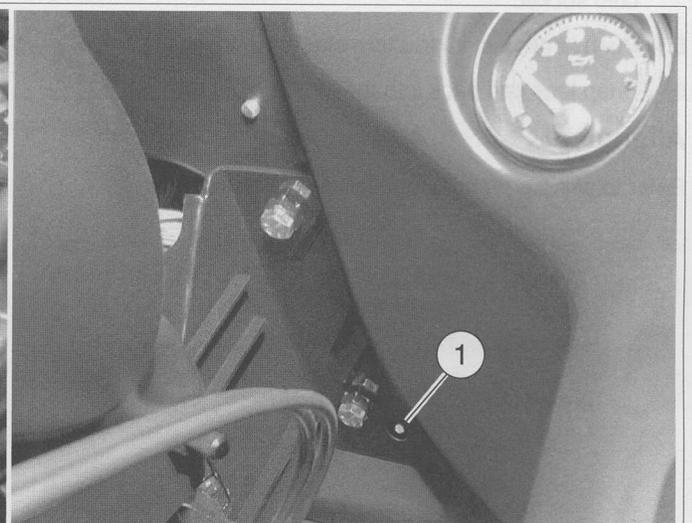

Figure 64. Headlamp Adjustment: FLTR
1. See Figure 64. Fit a 4.5 mm deep socket and a flexible driver to the hex adjusters near the bottom edge of the left and right inner fairing. The adjusters pivot the double headlamp housing around its upper mount.